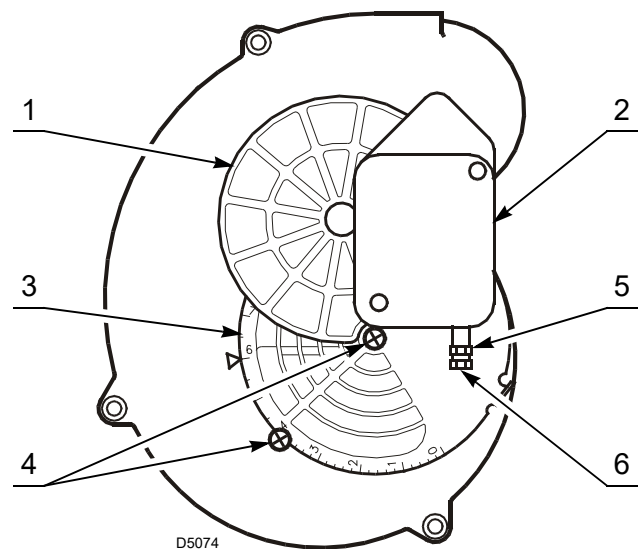

Fig. 14
- The mobile air damper 1)(Fig. 14), activated by the motor 2), ensures the suction inlet opens completely.
The damper leaves the factory set at pos.6, as shown in Fig. 14.
- The mobile air damper (1) returns to the standby position.
- Adjust 1st stage air delivery by turning the screw (6) after loosening the nut (5) by turning it in a clockwise direction.
- Once the ideal setting has been reached, block the nut (5) by turning it in an anticlockwise direction.